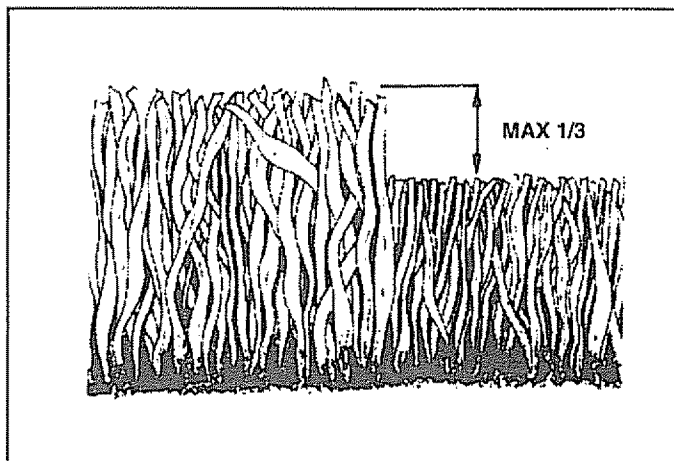

FIG. 11
- For best results, adjust the lawn mower cutting height so that the lawn mower cuts off only the top one-third of the grass blades (See Fig. 11). If the lawn is overgrown it will be necessary to raise the height of cut to reduce pushing effort and to keep from overloading the engine and leaving clumps of mulched grass. For extremely heavy mulching, reduce your width of cut, mow slowly and raise the rear of the lawn mower one wheel adjuster setting higher than the front.